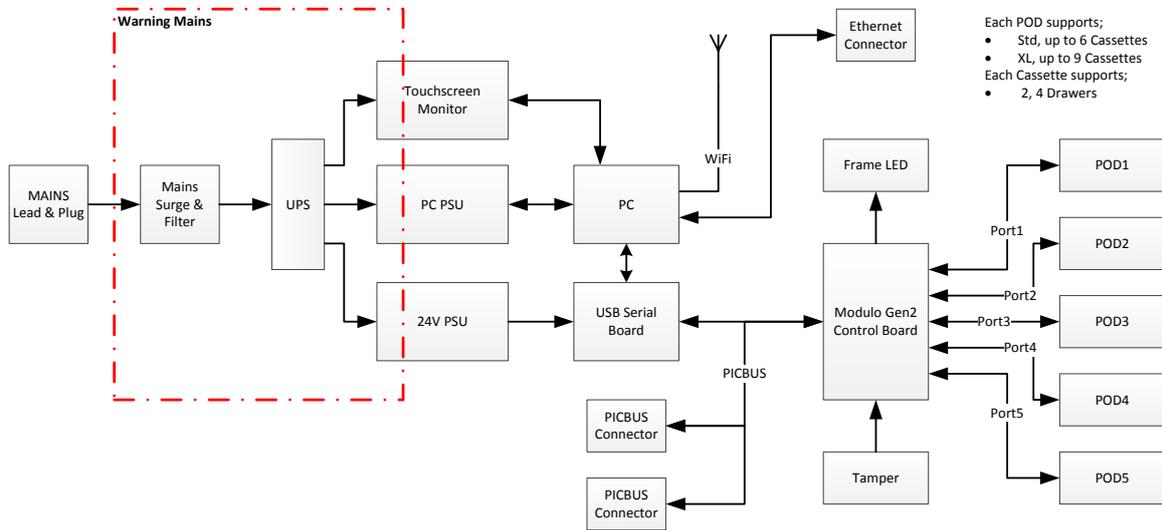

Figure 3 Standalone Modulo Gen2 Electronics Block Diagram
- See Figure 3 for Standalone Modulo Gen2